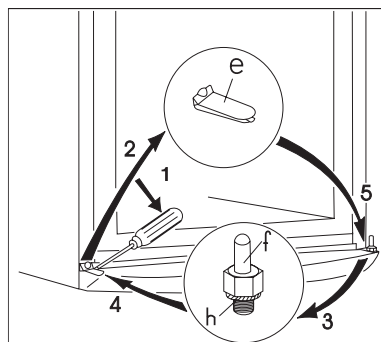

Fig. 5.
- Remove stops in both doors (t, z) (Fig. 5).